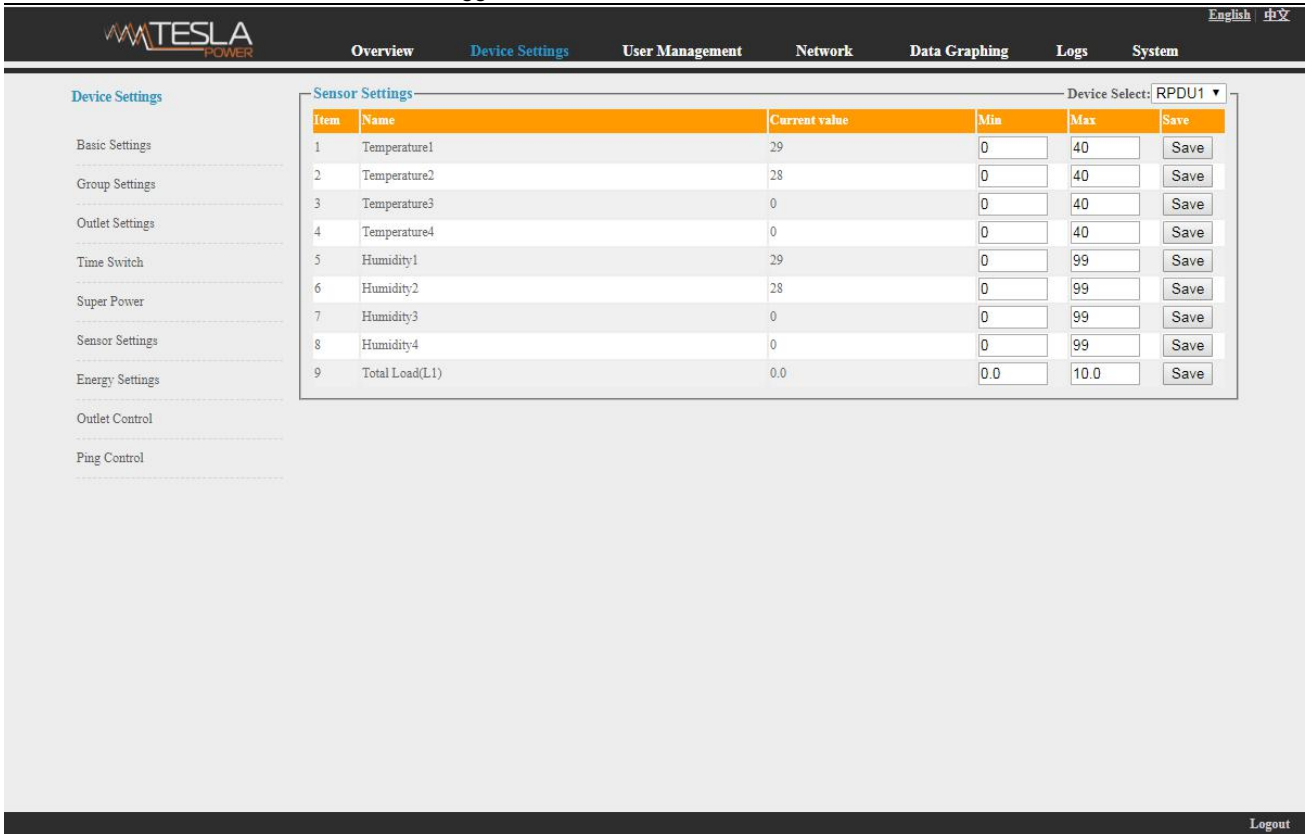

Figure 1-3-5
F. Sensor settings: set the threshold of temperature, humidity as figure 1-3-5